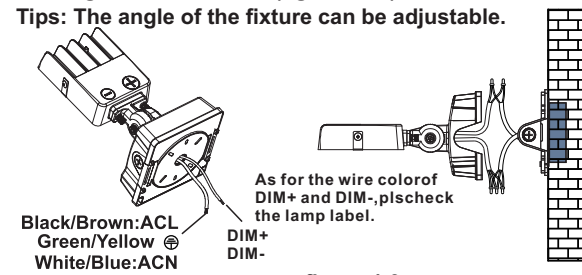

figure 1.9
- Step 2: Make appropriate wiring (pay attention to positive wire, negative wire, and ground wire); (figure 1.9)